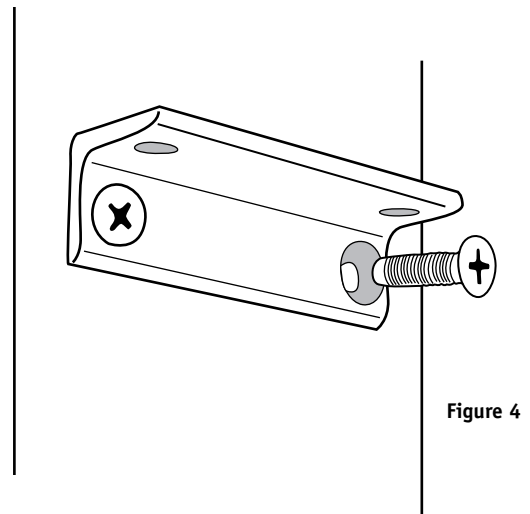

Figure 4
Once the five holes are drilled, attach the panel-mount brackets with four (4) #10 stainless steel countersunk thread-forming Phillips-head screws that are provided (Figure 4).